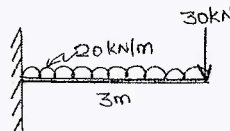

Fig. Q7 (b)
- b. A Cantilever of length 3 m and cross section 150 mm width and 300 mm in depth is loaded as shown in Fig. Q7 (b). Take $E = 2.1 \times 10^5 \text{ N/mm}^2$. Calculate maximum slope and maximum deflection. (12 Marks)